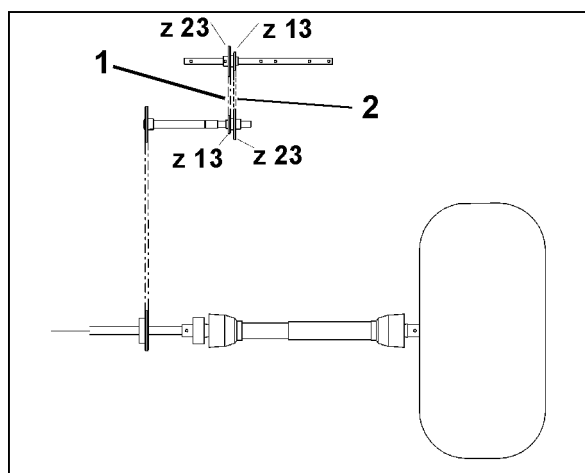

Fig. 33
- Slow ratio for usual amounts (Fig. 33/1).
- Quick ratio for large amounts (Fig. 33/2).